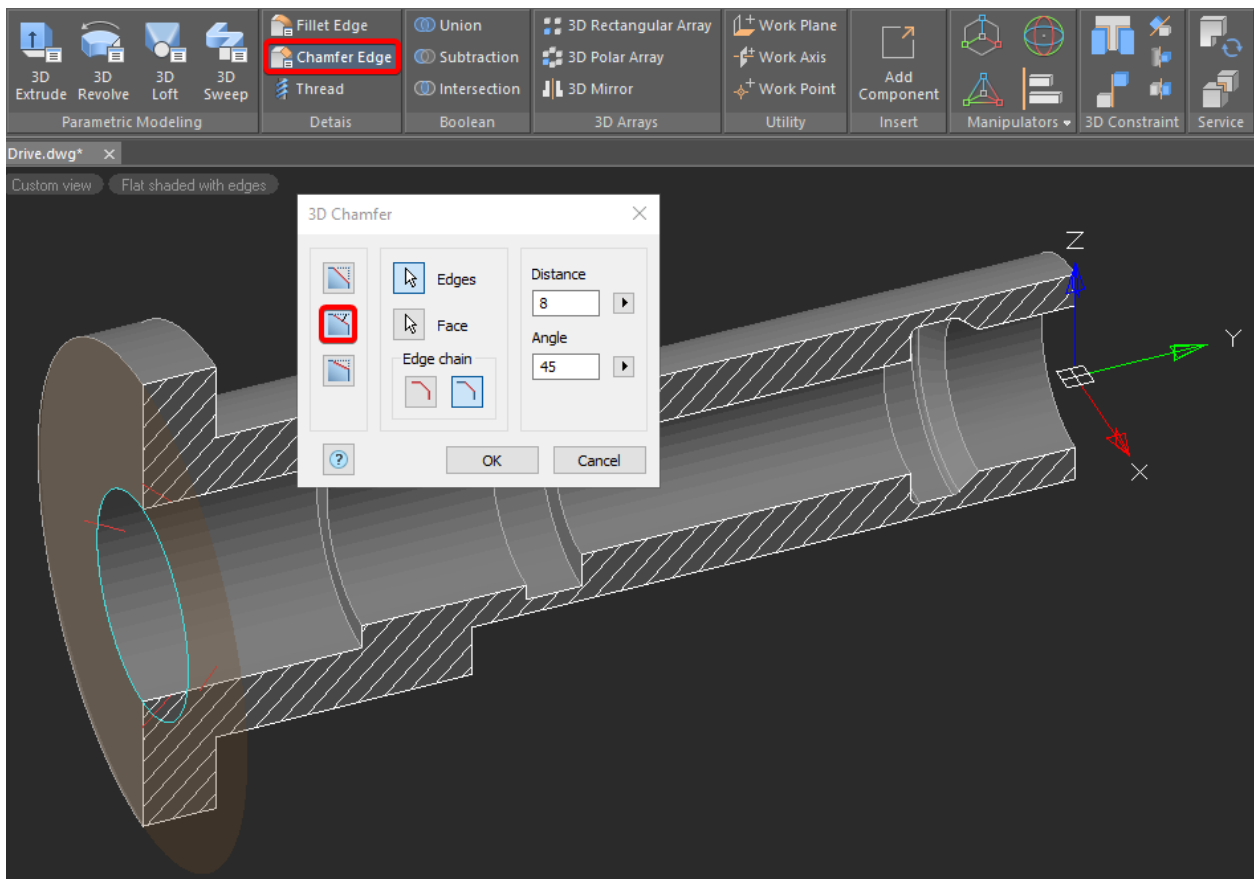

Fig. 20. Creating the chamfer
6.3. Activate the **3D Chamfer** command and select **Distance** and **Angle** from the specified face option. Enter a value, pick a face, and then an edge you want to chamfer (Fig. 20). Confirm the action.